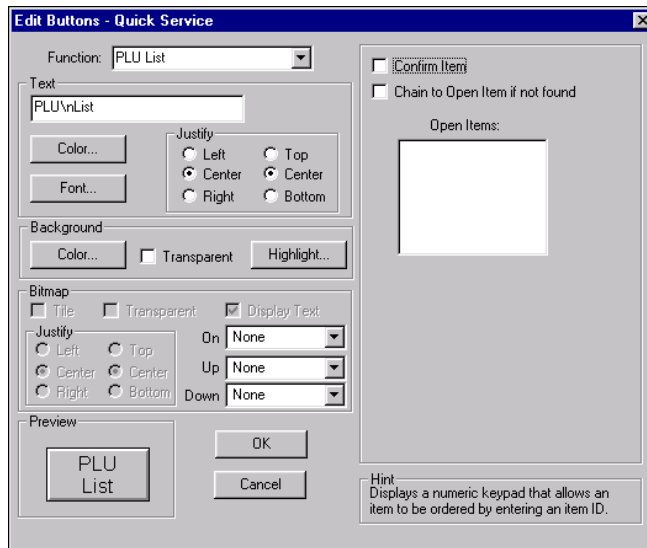

Figure 5-92 PLU List Button Function
1. Select **PLU List** from the **Function** drop-down list. Additional options display, as shown in Figure 5-92: